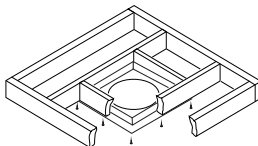

Figure 27 - Installing Firestop
1. Cut a 10 ³/₄" square hole in the ceiling using the locating hole as a center point. The opening should be framed to 10 ³/₄" x 10 ³/₄" (273 mm x 273 mm) inside dimensions, as shown in Figure 12 on page 11 using framing lumber the same size as the ceiling joists. If the area above the ceiling is an insulated ceiling or a room, nail firestop from the top side. This prevents loose insulation from falling into the required clearance space. Otherwise, install firestop below the framed hole. The firestop should be installed with no less than three nails per side (see Figure 27).